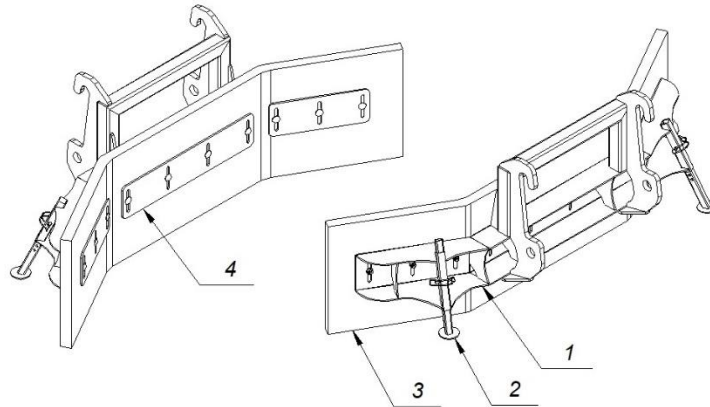

Fig. 1 MRSM mechanical slurry plough scraper.
The working element of the MRSM plough, is the front plate Fig.1 (3), made of thick rubber, attached to a welded steel frame (1) with fastening, using bolts and pressure plates. A parking jack (2) is embedded in the frame, which has to be lifted up for plough operation and secured with a pin.